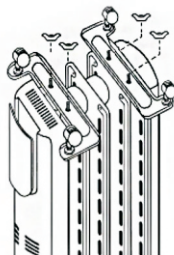
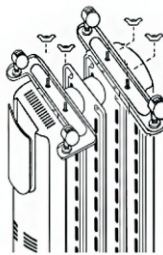

Fig. 4
Fig. 5
2. On the HOIL5 models, note the correct position of the anti-topple castors. The wings on the brackets must be pointing outwards, away from the radiator. Refer to fig.4. On the HOIL7 models,Refer to fig.5